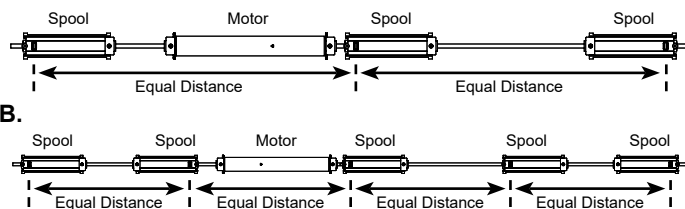

Fig.6B.
B. Odd Number of Cord Spools: Where one cord will be located on the centerline, the motor should be placed as close as possible to the center spool. The distance between each lift cord should be equal, as shown in **Figure 6B**.